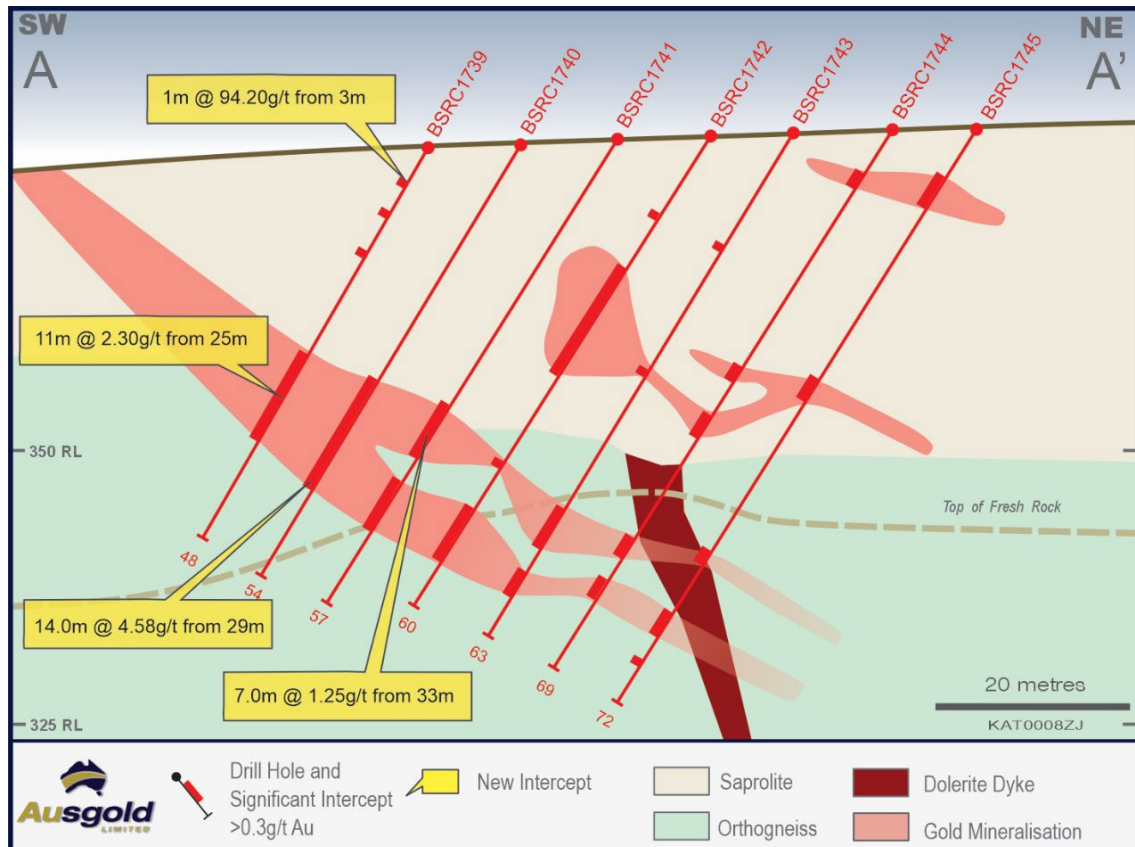

Figure 3 – Cross-section A-A' across Jinkas -White Dam Lodes of the Grade Control program
- 1m @ 94.20g/t from 3m and 11m @ 2.30g/t from 25m in BSRC1739 (Figure 3)
- 14m @ 4.58g/t from 29m including 1m @ 56g/t from 36m in BSRC1740 (Figure 3)